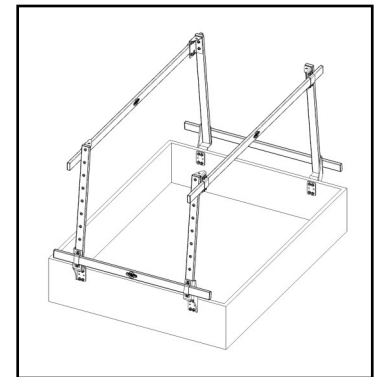

Fig. 7
7. See fig. 7. Repeat step 6 to install the other cross bar tube onto the rack.